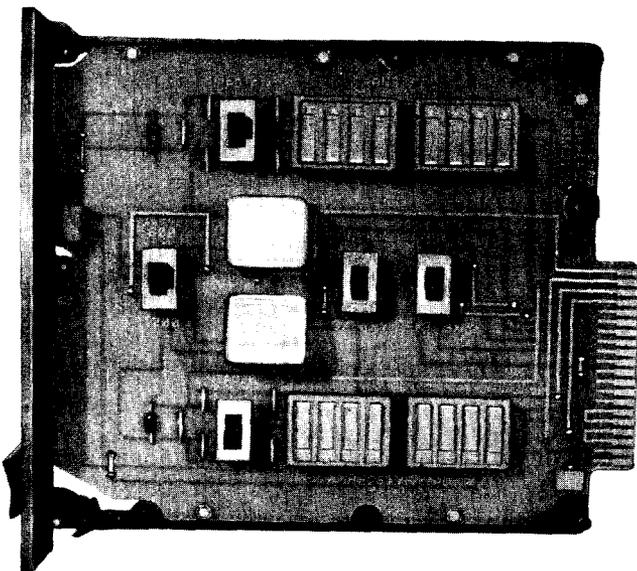

Fig. 2—J99343BD 4-4 Wire Transmission Unit Controls
**2.02** Construction consists of circuit components located on a printed wiring board mounted on a die-cast frame. Five slide switches (Fig. 2) on the printed wiring board set the necessary options and configurations. These switches are discussed in Part 3 of this section.
be inserted when the designation of that switch is visible (see Fig. 2).